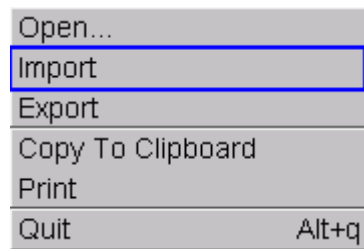

Figure 4.50: Import file menu
1) Select menu **File**→**Import** to open the Import dialogue window. See figure: 4.50.